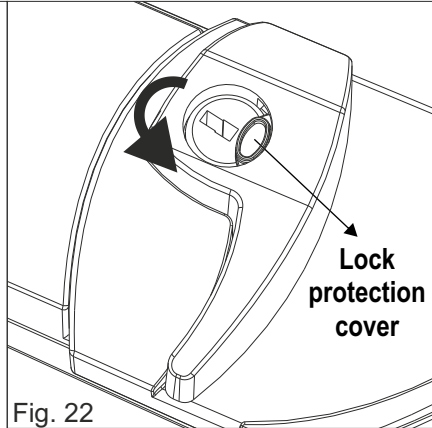

Fig. 22
- 1) Turn counter-clockwise the lock protection cover (Fig. 22)